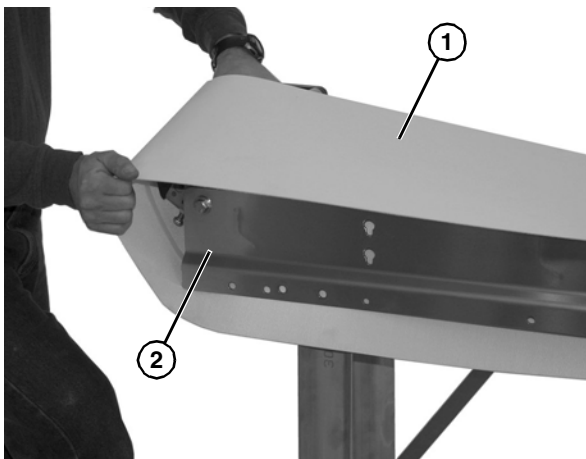

Figure 48
3. Install belt (Figure 48, item 1) on conveyor. Lift conveyor (Figure 48, item 2) slightly to avoid pinching belt on temporary support stands.